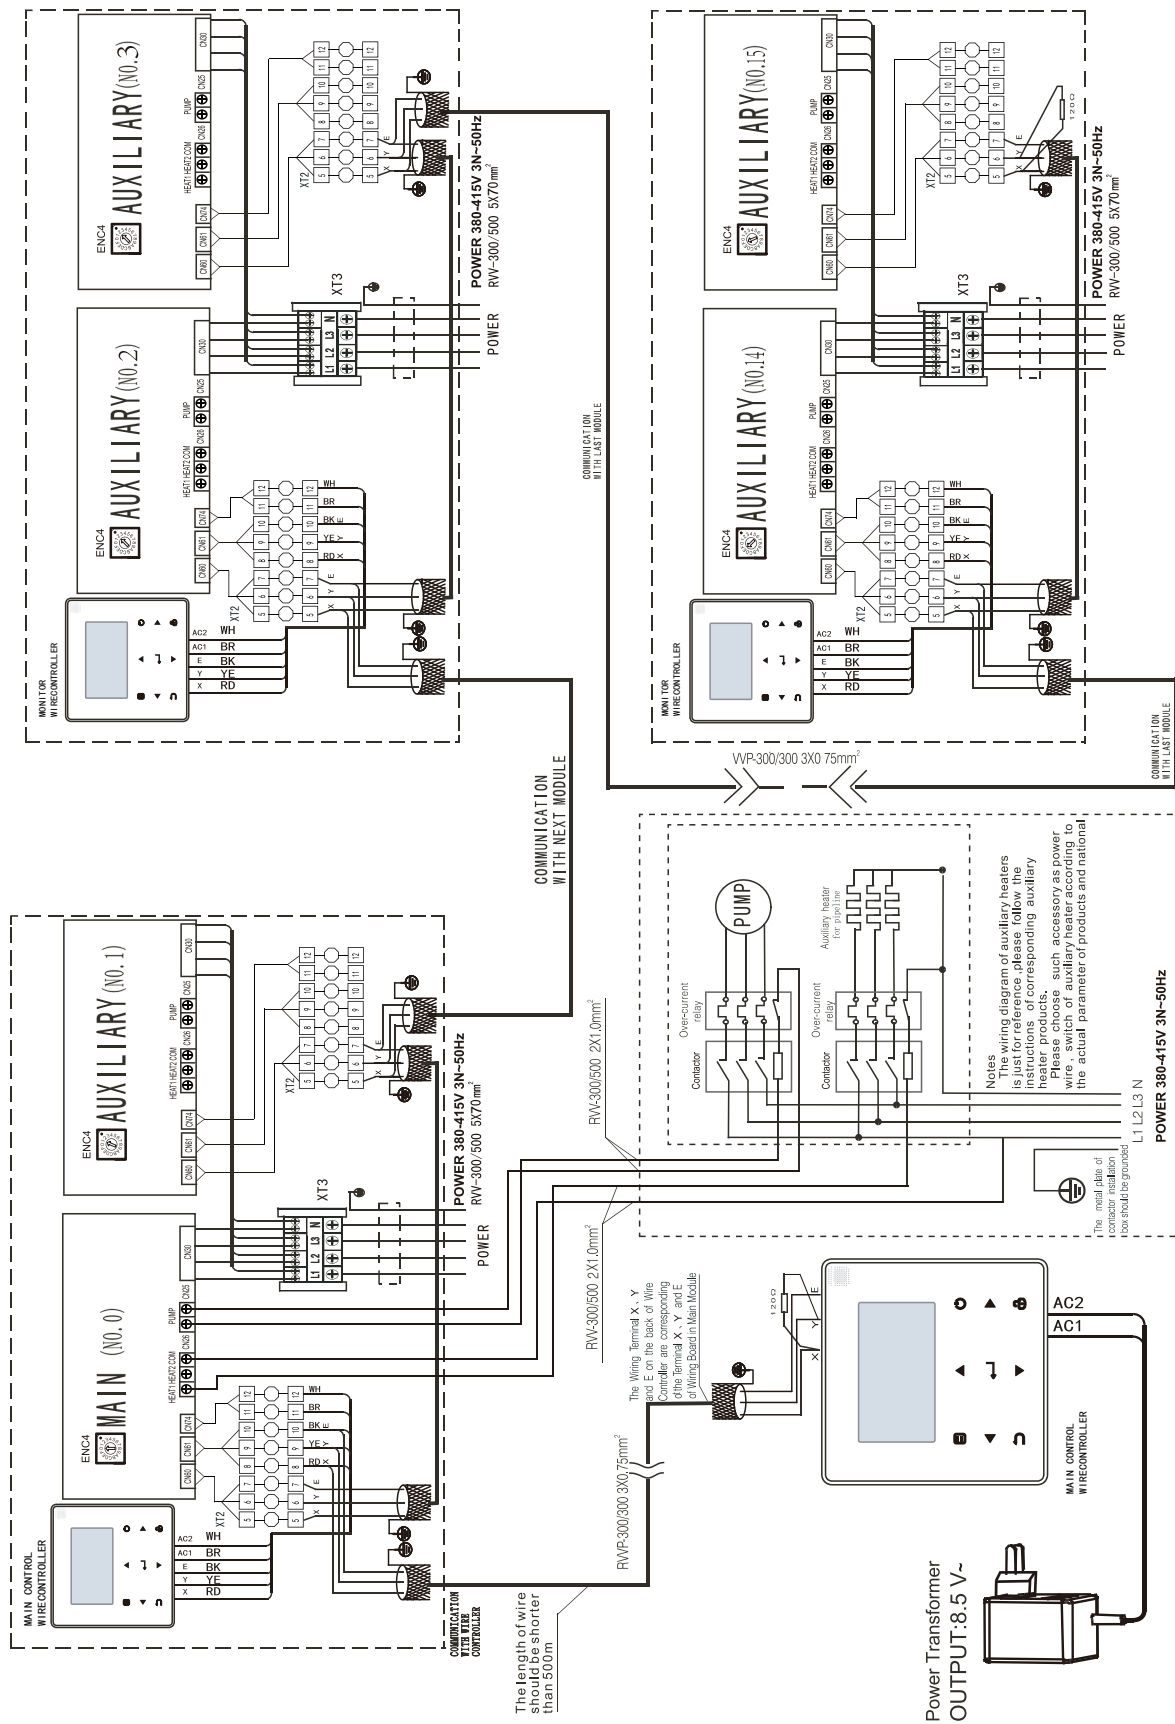

Fig. 8-28 Networking communication schematic of main unit and auxiliary unit for MC-SU180-RN8L-B
c) The inlet pipe of the evaporator must be provided with a target flow controller, to realize flow-break protection for the unit. Both ends of the target flow controller must be supplied with horizontal straight pipe sections whose diameter is 5 times that of the inlet pipe. The target flow controller must be installed in strict accordance with "Installation & Regulation Guide for Target Flow Controller" (Fig.8-28,8-29). The wires of the target flow controller should be led to the electric cabinet through shielded cable (see Electric Controlling Schematic Diagram for details). The working pressure of the target flow controller is 1.0MPa, and its interface is 1 inch in diameter. After the pipelines are installed, the target flow controller will be set properly according to the rated water flow of the unit.